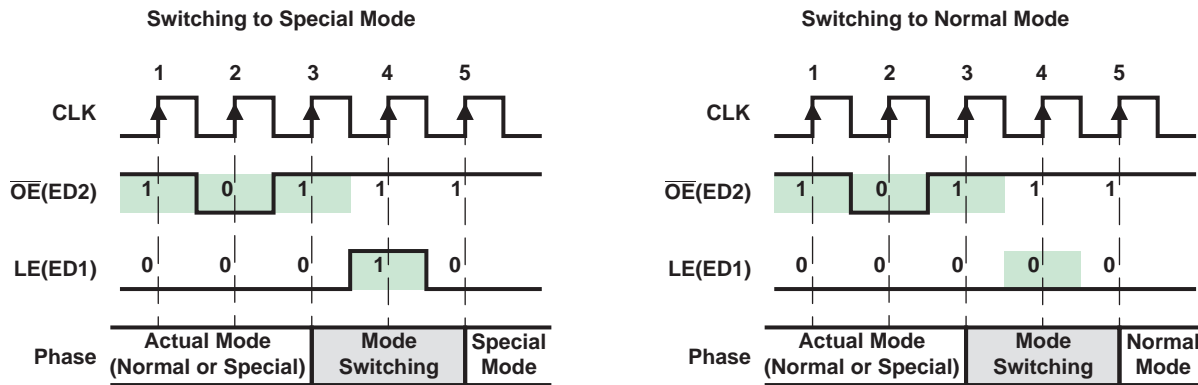

Figure 18. Mode Switching
To switch between its two modes, TLC5916/TLC5917 monitors the signal $\overline{OE}(ED2)$. When an one-clock-wide pulse of $\overline{OE}(ED2)$ appears, TLC5916/TLC5917 enters the two-clock-period transition phase, the Mode Switching phase. After power on, the default operation mode is the Normal Mode (see Figure 18).
As shown in Figure 18, once a one-clock-wide short pulse (101) of $\overline{OE}(ED2)$ appears, TLC5916/TLC5917 enters the Mode Switching phase. At the fourth rising edge of CLK, if LE(ED1) is sampled as voltage high, TLC5916/TLC5917 switches to Special Mode; otherwise, it switches to Normal Mode. The signal LE(ED1) between the third and the fifth rising edges of CLK cannot latch any data. Its level is used only to determine into which mode to switch. However, the short pulse of $\overline{OE}(ED2)$ can still enable the output ports. During mode switching, the serial data can still be transferred through SDI and shifted out from SDO.